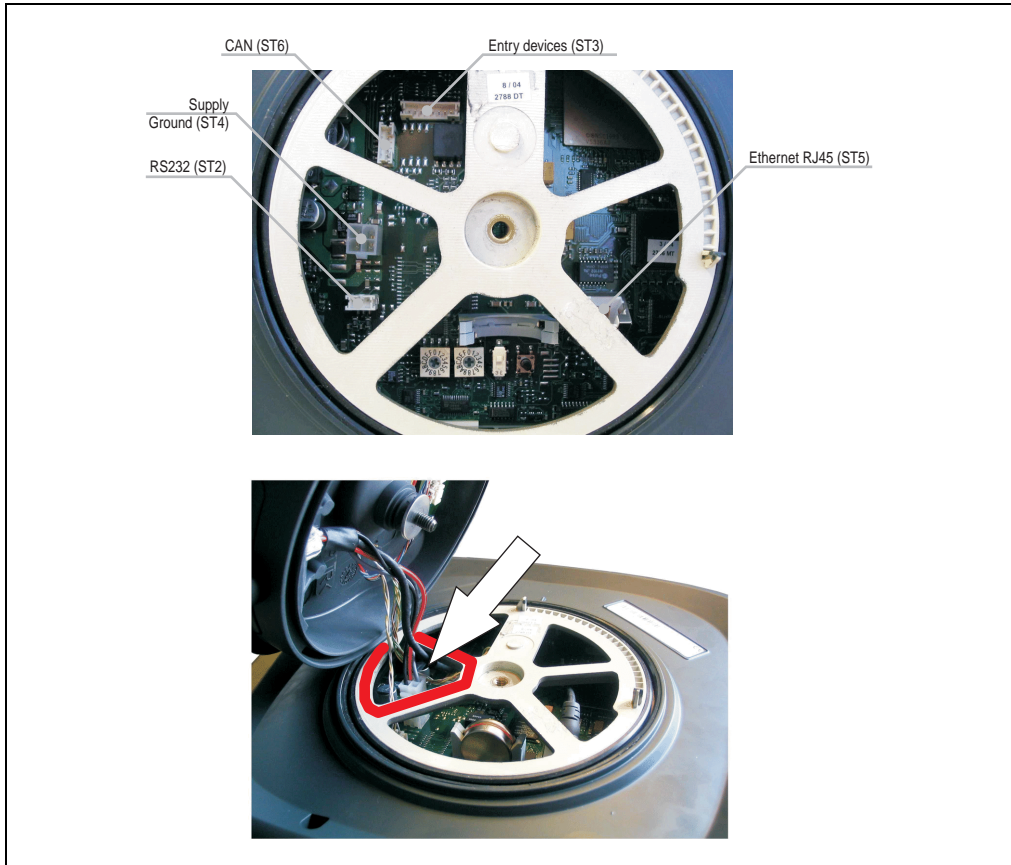

Figure 67: Connectors and cable arrangement
- 7) Connect the Mobile Panel attachment cable to the panel (ST2, ST3, ST4, ST5, ST6). See figure 31 "Connection cable 5CAMPH.0xxx-00" on page 64 for connecting the cable. Cables may only be guided through the housing opening identified in figure 67 "Connectors and cable arrangement" (see arrow).